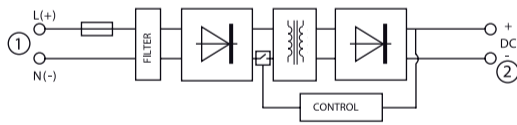

Figure-2
- The part which is numbered as 1 in Figure-2 is the Line and Neutral supply inputs of PS-361.
- The part which is numbered as 1 in Figure-2 is the DC voltage output of PS-361.